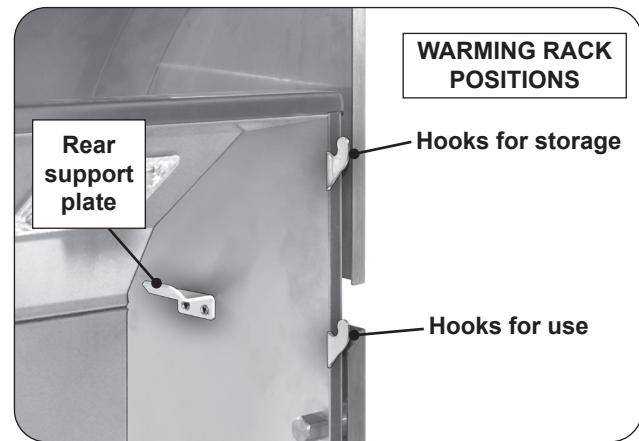
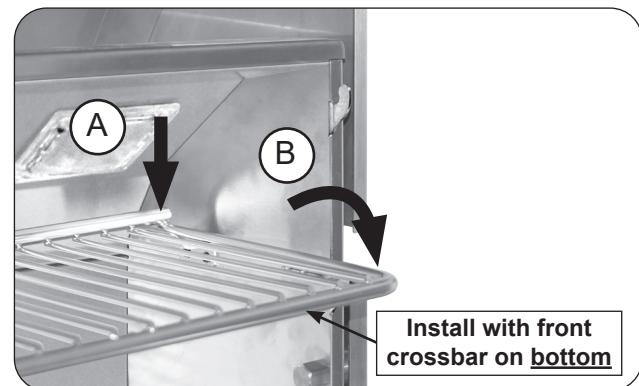

Fig. 33-1 Warming rack hooks
Fig. 33-2 Place warming rack for use
1. Locate the warming rack hooks and rear supports found on the upper portion of the grill oven (see Fig. 33-1).
2. With the warming rack oriented as shown, carefully rest the rear of the rack onto the rear support plates (Fig. 33-2, A), then rest the warming rack arms onto the two lower hooks for use (Fig. 33-2, B). Use the top hooks for storage (see Fig. 33-1 and Fig. 33-3).